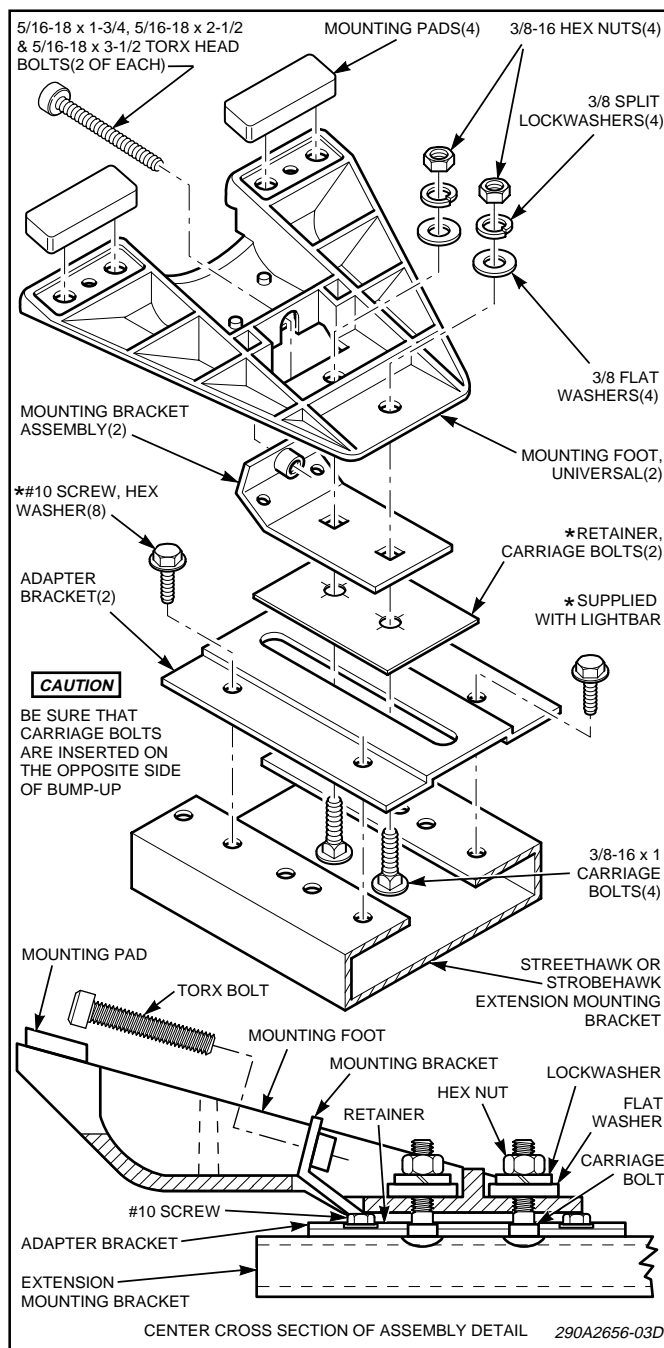

Figure 3.
2. Insert the two (2) rubber mounting pads into each plastic mounting foot as shown in figure 3. To allow easy insertion of the rubber pads, wet the rubber mounting pad's center nipple.
3. Assemble two 3/8-16 carriage bolts to each adapter bracket with a bolt retainer as shown in figure 3.
4. See figure 3. Assemble an adapter bracket assembly to the extension mounting bracket on each end of the light bar using eight #10 hex head screws (four for each bracket). We recommend that the adapter bracket assemblies be fastened to the appropriate holes, provided in the extension mounting brackets, that best suits your installation. Tighten securely.
5. Assemble a hook bracket and mounting foot to each adapter bracket assembly using the 3/8 flat washers, 3/8 lockwashers and 3/8-16 hex nuts as shown in figure 3.